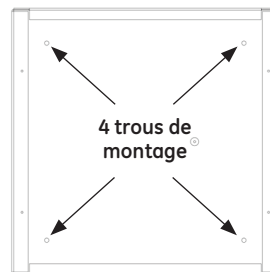

FIGURE 3
- Secure the mounting box accessory to the ceiling surface using 4 suitable fasteners, and anchors where applicable. Minimum recommended fastener diameter 1/4" (See Figure 3).